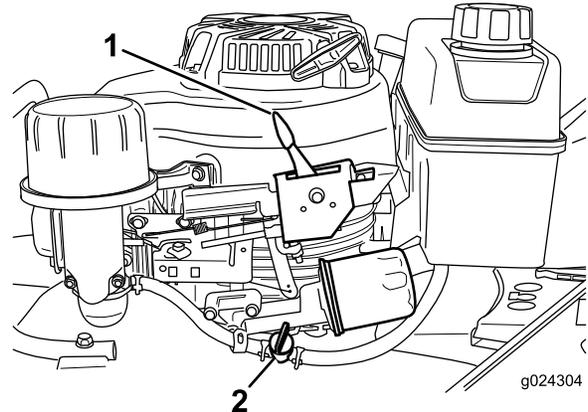

Figure 15
2. Open the fuel valve by moving the fuel-valve lever to the **right** (Figure 15).
Release the blade-control bar and move the throttle-control lever (Figure 15) to the **STOP** position.
Note: Close the fuel valve (Figure 15) if you will not be starting the engine soon afterward.